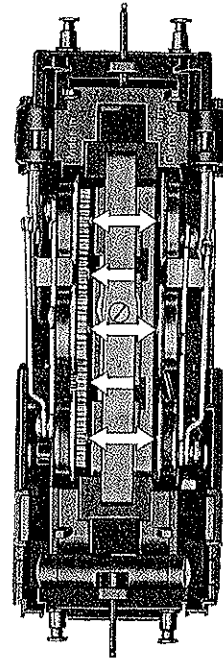

Fig. 4 Schmierzellen von unten
purpose. (See Point 4.) The axle bearings marked by arrows in fig. 4 must also be lubricated. Never give more than a drop or two of oil to any bearing. Over-oiling causes a film of dirt to form that may cause breakdown on the railway. We recommend MÄRKLIN Lubricating Oil 7199, or a winter grade of motor engine oil should be used for lubricating; edible oil, i. e., salad oil, must not be used on any account. The bearings just mentioned must be lubricated again after the engine has run for a time.
7. The collector shoe sliding contact must be kept clean, and should be polished with fine emery paper if necessary, though be careful not to let any dust fall into the engine when doing this. If the sliding contact should become worn after running a long time it can be removed simply by taking out the screw shown in fig. 4 and replaced by a new contact No. 7173 equally easily. When placing the new shoe in position be careful about the correct position of the contact plates. Perfect contact between the point contacts and the collector shoe calls for adequate pressure by the shoe spring. If necessary this spring should be tightened up by means of a pair of flat pliers.